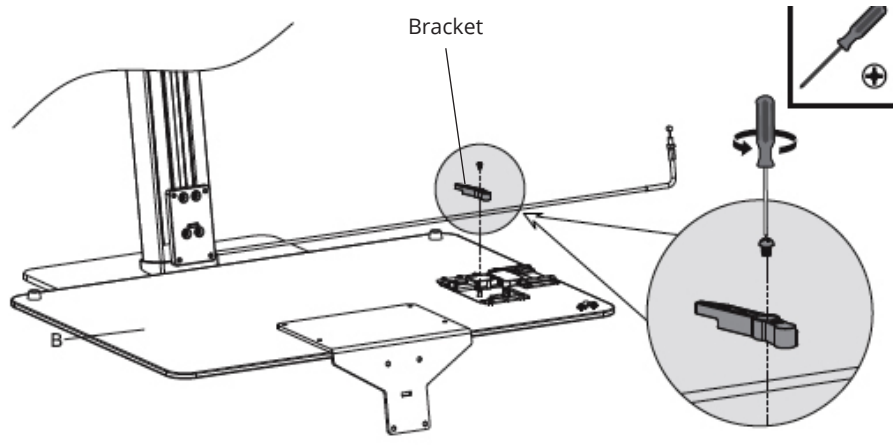

Figure 2A
1. Turn the Keyboard Tray over and use a Phillips screwdriver to remove the bracket, see Figure 2A.